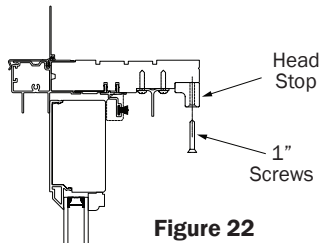

Figure 22
25. Remove the head stop by backing out the 1" Flat Head Screws and put aside (Fig. 22). These will be re-installed.